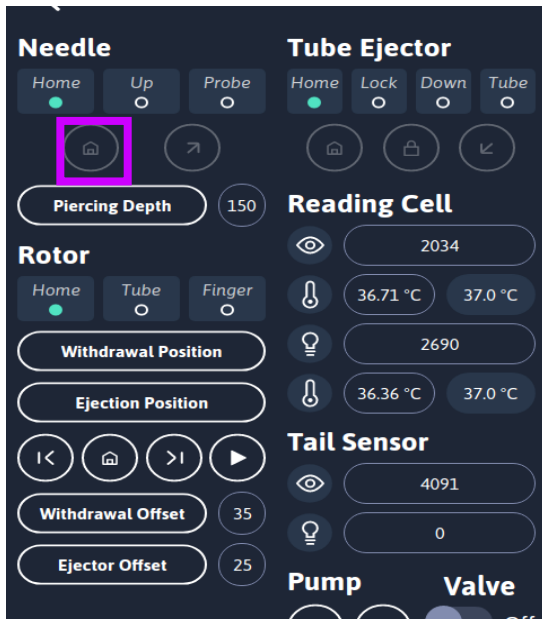

Figure 13
13. Once the timer alarms, press the “Home” button highlighted in Figure 13.